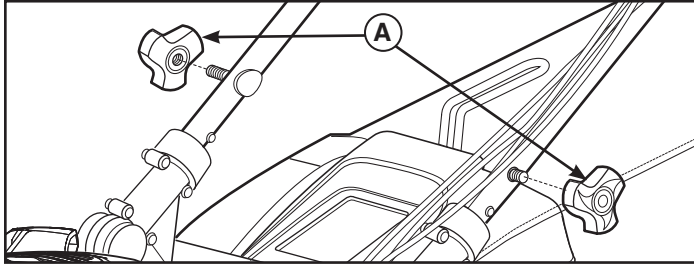

Figure 7
1. Loosen the lower handle knobs (A, Figure 7) at the left and right handle brackets.